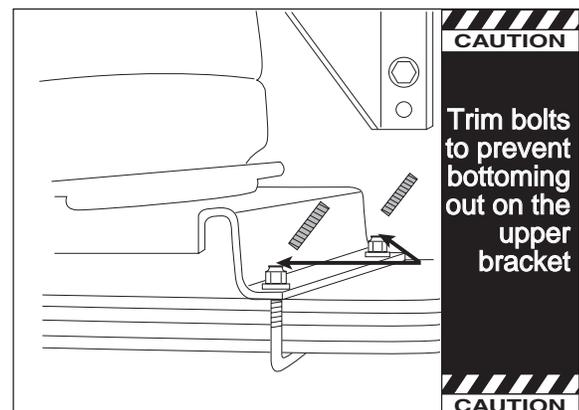

Figure 13
2. Due to the thickness of the leaf spring stack, it will be necessary to trim the U-Bolts (Figure 13).